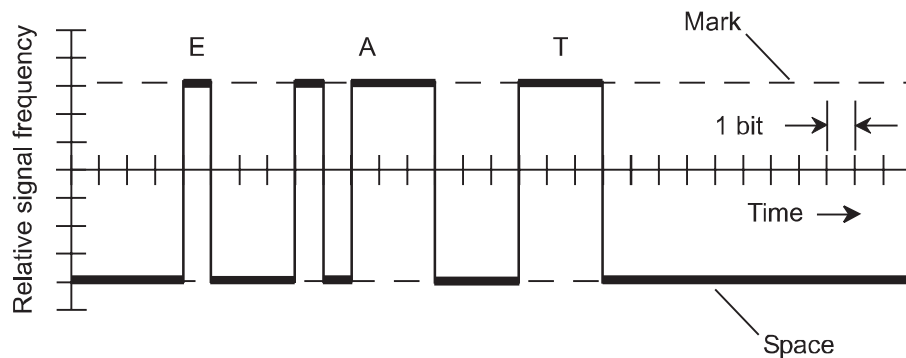
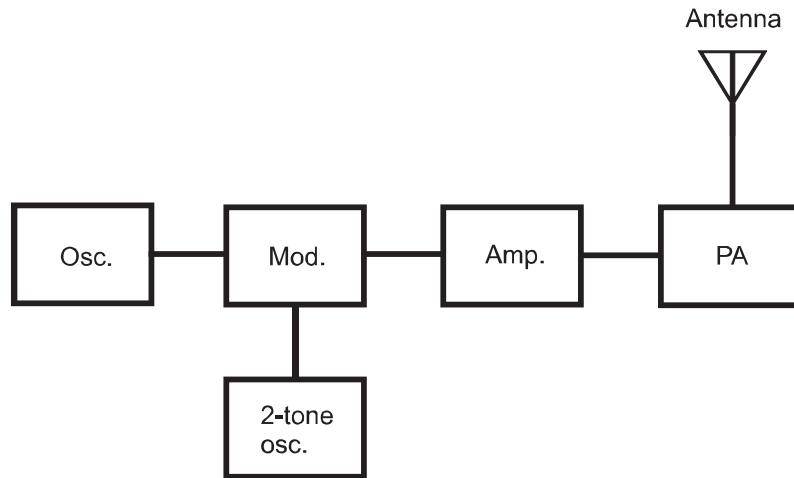

Fig. 9-3. The Morse code word “eat” as sent using FSK.
Fig. 9-4. Block diagram of an AFSK transmitter.
In *radioteletype* (RTTY) FSK and AFSK systems, a *terminal unit* (TU), also known as a *modem* (a contraction of the technical term *modulator/demodulator*), converts received signals into electrical impulses that operate a teleprinter, or that display characters on a computer screen. The TU also generates the signals necessary to send RTTY as an operator types on a keyboard. A frequency-versus-time graph of the word “eat,” sent using FSK with Morse code, is shown in Fig. 9-3. A block diagram of an AFSK transmitter is shown in Fig. 9-4.